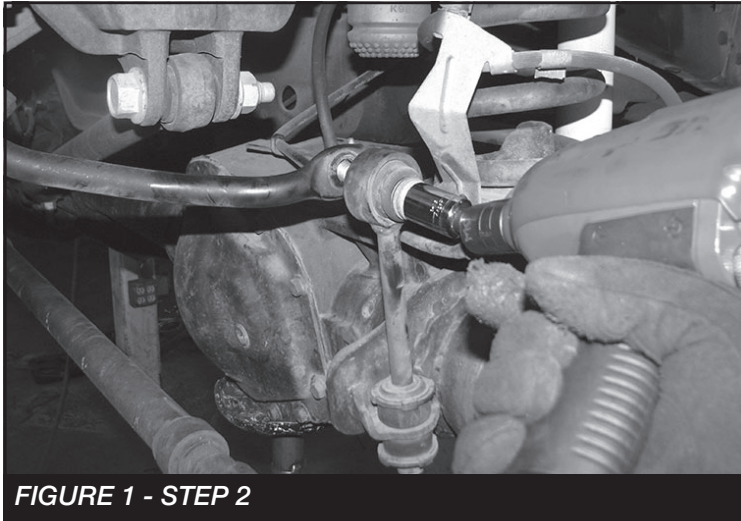

FIGURE 1 - STEP 2
2. With the front axle supported, Disconnect the sway bar from the endlink. Save hardware. **SEE FIGURE 1**